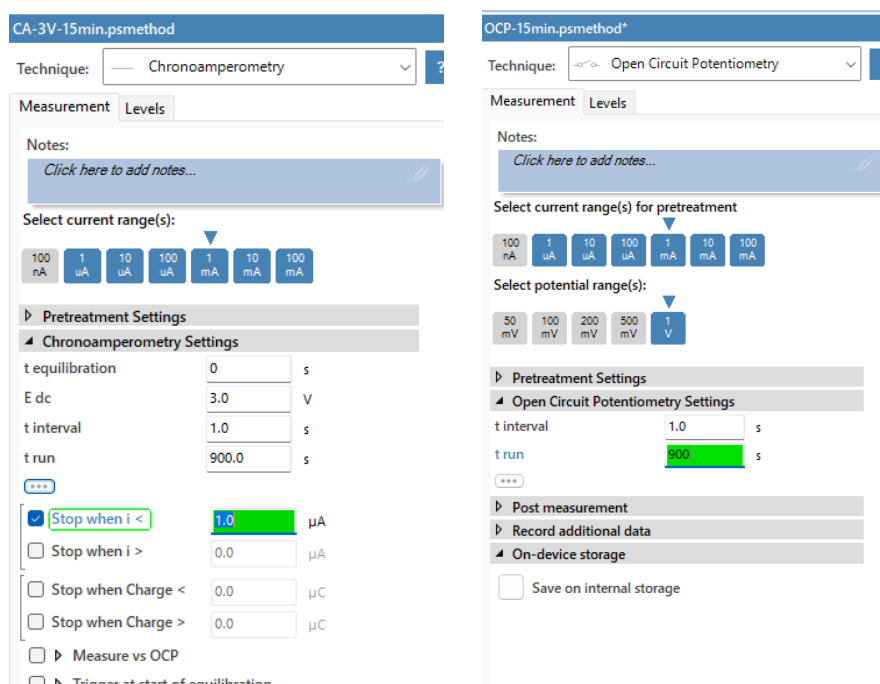

Figure 5 Creating methods to be used as PITT steps in a Script sequence
- Create a second method for the Open Circuit Potential (OCP) step. Select 'Open Circuit Potentiometry' from the Technique field, set your desired interval and run times, and save this method as well (see Figure 5 for an example).